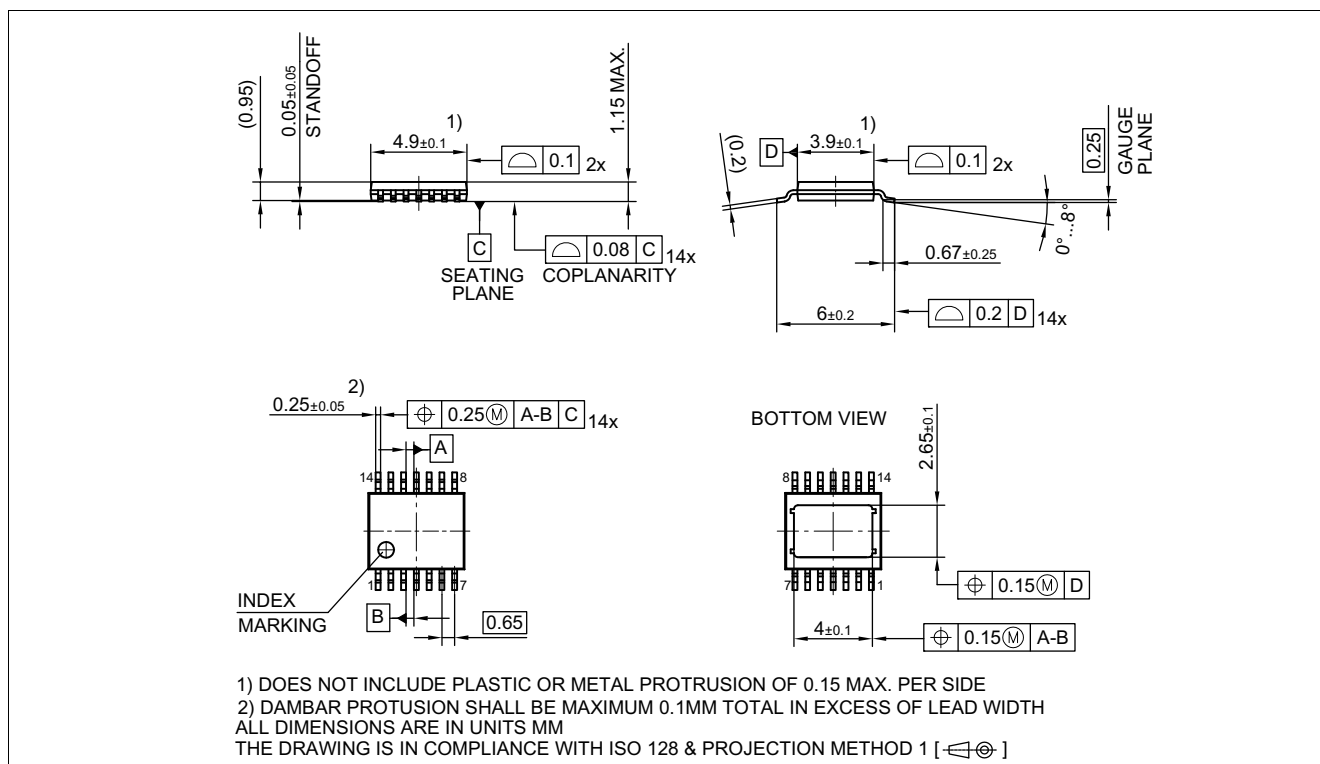
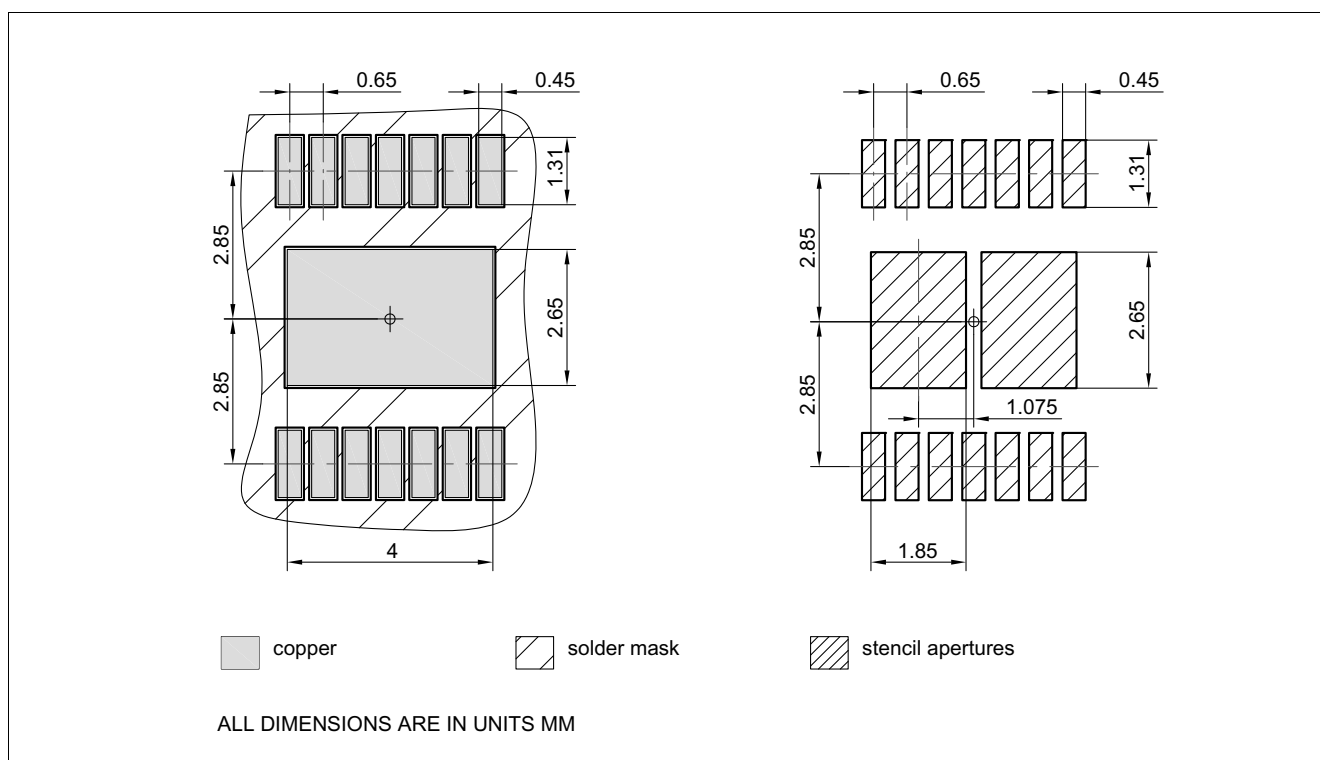

Figure 38 PG-TSDSO-14 (Thin (Slim) Dual Small Outline 14 pins) Package Outline
Figure 39 PG-TSDSO-14 (Thin (Slim) Dual Small Outline 14 pins) Package pads and stencil
1.02 , 2019-02-05	<p>Figure 9, Figure 10 updated</p> <p>Page 1: updated (figure product)</p> <p>Table 22 updated (punctuation)</p> <p>Chapter 9.3, Chapter 9.3.1 updated (typo)</p> <p>Page 1: updated (Package PG-TSDSO-14-22 → Package PG-TSDSO-14)</p> <p>Figure 38 updated (PG-TSDSO-14-22 (Thin (Slim) Dual Small Outline 14 pins) Package Outline → PG-TSDSO-14 (Thin (Slim) Dual Small Outline 14 pins) Package Outline)</p> <p>Figure 39 updated (PG-TSDSO-14-22 (Thin (Slim) Dual Small Outline 14 pins) Package pads and stencil → PG-TSDSO-14 (Thin (Slim) Dual Small Outline 14 pins) Package pads and stencil)</p> <p>Table 1 updated (Parameter: Minimum Overvoltage protection ($T_J = 25\text{ °C}$) → Minimum Overvoltage protection ($T_J \geq 25\text{ °C}$))</p> <p>Table 1 updated (corrected typo in table Product Summary: $I_{VS(OFF)}$: 1 → 0.4 μA)</p> <p>Table 1 updated (Symbol: $I_{VS(OFF)} \rightarrow I_{VS(OFF)_85}$)</p> <p>P_6.5.22.1 updated (Symbol: $I_{VS(OFF)} \rightarrow I_{VS(OFF)_85}$)</p> <p>P_6.5.22.2 updated (Symbol: $I_{VS(OFF)} \rightarrow I_{VS(OFF)_150}$)</p>